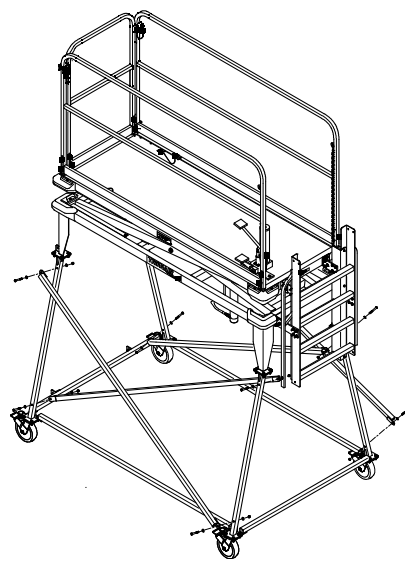

FIGURE 3
4. Install cross braces using $\frac{3}{8}$ -16 x 3 inch long bolts (See **Figure 3**).